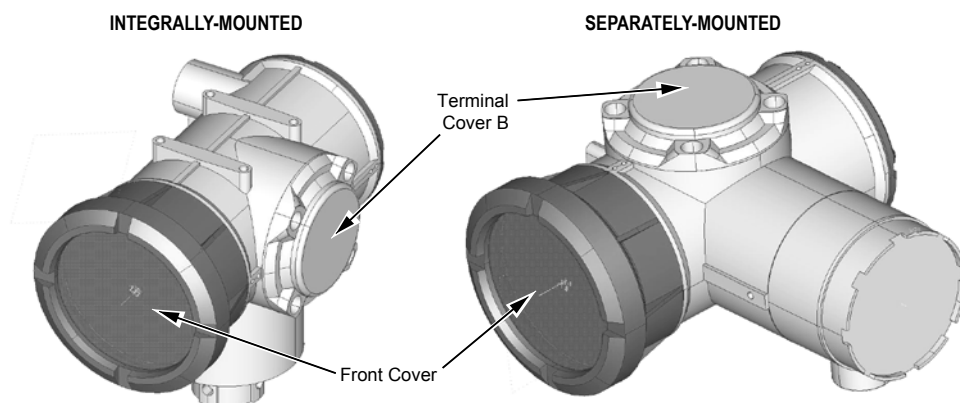

Figure 2.1—Terminal cover B location on integrally-mounted and separately-mounted transmitter
- a. Locate terminal cover B (Figure 2.1) and unscrew and remove the four M8 hex bolts. Set bolts aside for reassembly.